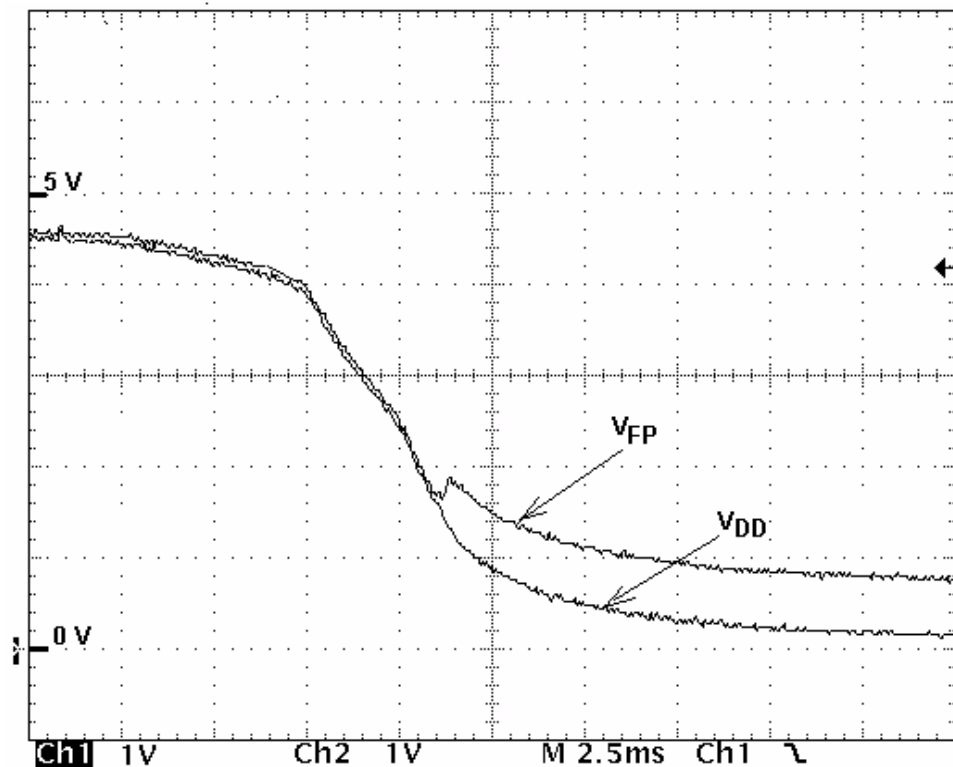
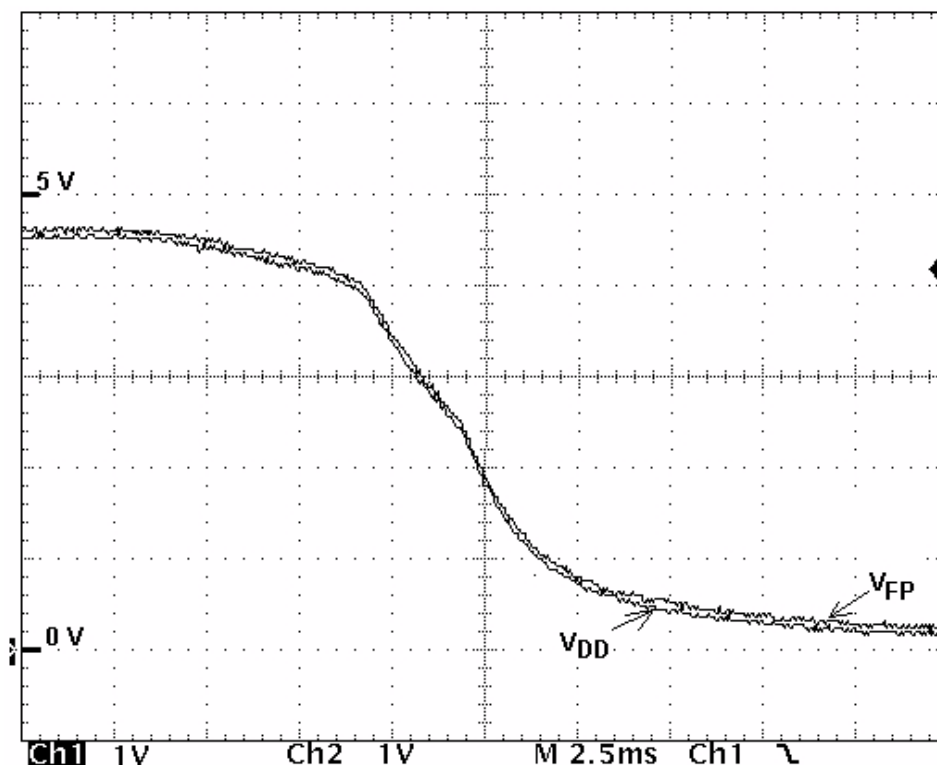

Figure 11.  $V_{FP}$  Exceeding  $V_{DD}$  during Power-Down
Figure 12.  $V_{FP}$  Tracking  $V_{DD}$  during Power-Down
corruption in the FLASH array. (Refer to Figure 11.) C4 is where the dc-dc converter stores charge to supply  $V_{Out}$  to the target device. The supply must be able to source approximately 30 mA of current for at least 20  $\mu$ s (based on programming cycle requirements) and 4 mA of current for at least 10 ms (based on erase cycle requirements).
**NOTE:** Figure 10 is different from the recommended circuit shown in information about ST662A from ST Microelectronics, but it is correct. The change is in the location of the capacitor C4, which is now placed between  $V_{DD}$  and  $V_{FP}$ . This change was implemented with the cooperation of ST Microelectronics to aid in tracking a rapidly falling  $V_{DD}$  voltage level, such as in Figure 11 and Figure 12. This circuit also has been verified with the Maxim Integrated Products device (MAX662).
Be certain that  $V_{FP}$  decays with  $V_{DD}$ , as shown in Figure 12, as new capacitance values are tested. The rate of decay of the  $V_{DD}$  supply powering down will help define how large the C3 capacitance can be made.